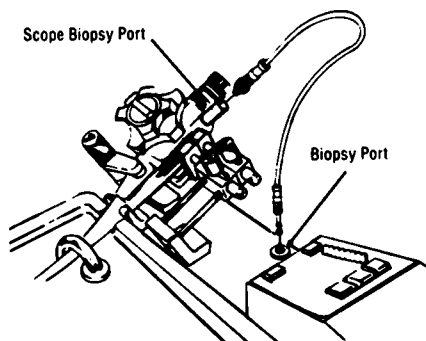
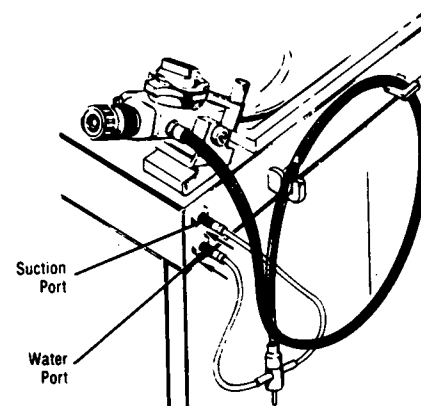

Figure 2-11. ATTACH BIOPSY PORT ADAPTER.
Figure 2-12. ATTACH SUCTION AND WATER PORT ADAPTERS.
9. Select the correct washing adapters (see Section 2.5) and attach the biopsy port adapter at the top of the operating head and the top of the control console. See Figure 2-11. Attach the suction and water port adapters to the light guide channel connections and to the washer ports on the front of the machine. See Figure 2-12.